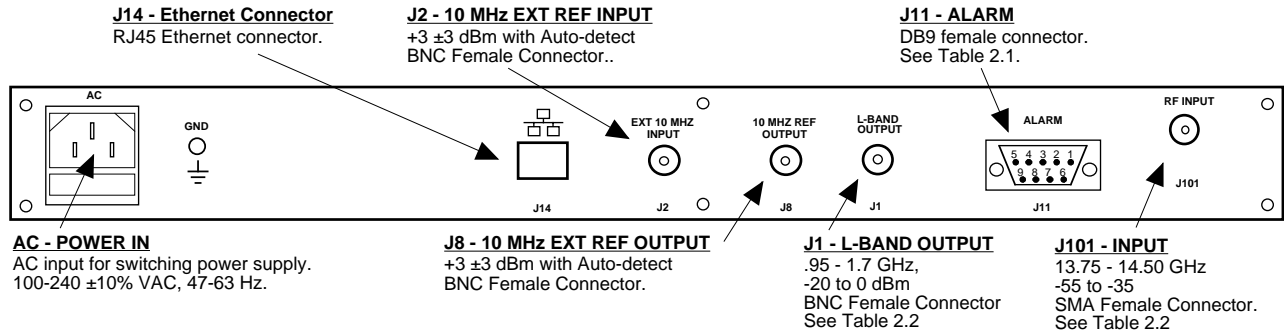

FIGURE 2.1 3116-140 Rear Panel I/O's
Figure 2.1 shows the input and output connectors on the rear panel.
1. Connect a -55 dBm to -35 dBm signal to RF IN, J101 (Figure 2.1).